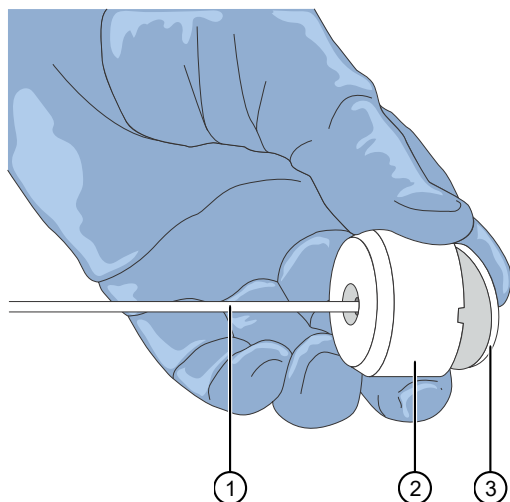

Figure 45 Components of the reagent buffer supply line and filter.
2. Carefully remove the filter from the end of the filter body (see Figure 45).